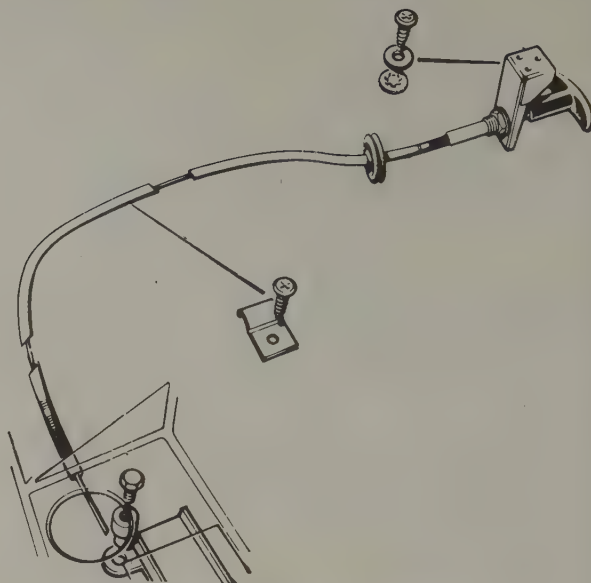

Fig. 12.31. The bonnet lock control cable components
- 5 Detach the cable from the lock, loosen the cable retaining clips and extract the cable (Fig.12.31).